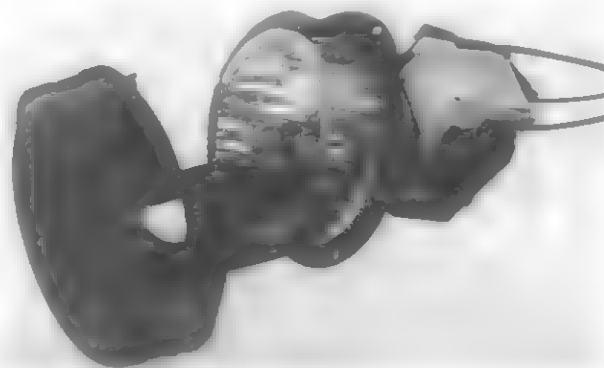

Figure 6
5. Slide blower and motor assembly out of blower housing. (See Figure 6.)